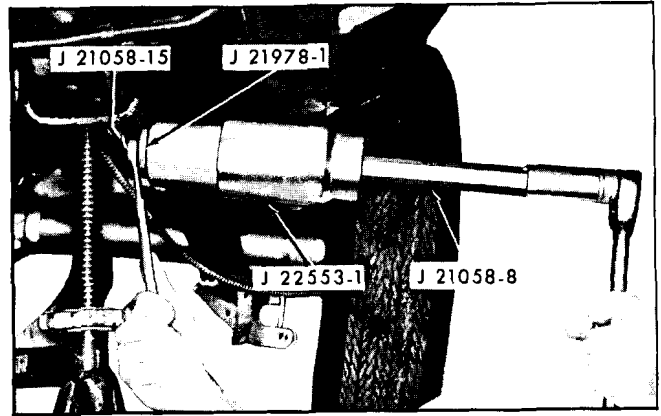

Fig. 4-26 Removing Leaf Spring Front Bushing (F Series Shown)
8. Position remover adapter J 21978-1 over puller screw J 21058-15 so that adapter is against head of puller screw (Fig. 4-26).